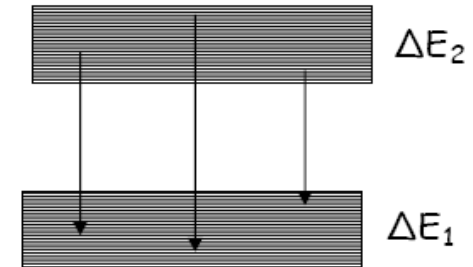

Fig. 2.7 LD lasing spectra
- Energy is channeled into one mode (one lasing frequency, with the highest gain). This mode is the first to achieve stimulated emission, thus consuming most of the electrons in the upper energy states, see Fig. 2.7.